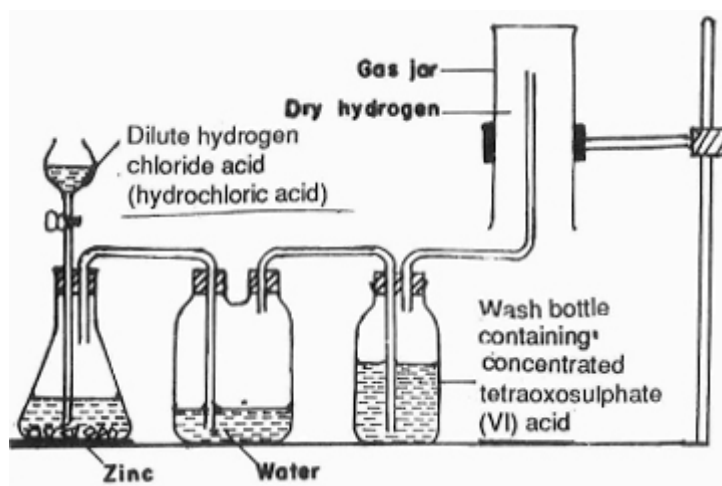

Figure 7.2. Preparation of dry hydrogen gas.
If dry hydrogen is required the gas from the flat-bottomed flask is first passed through water to remove acid spray, and finally dried by passing it through a wash bottle containing concentrated tetraoxosulphate(VI) acid. It is collected by downward displacement of air as in Figure 7.2.